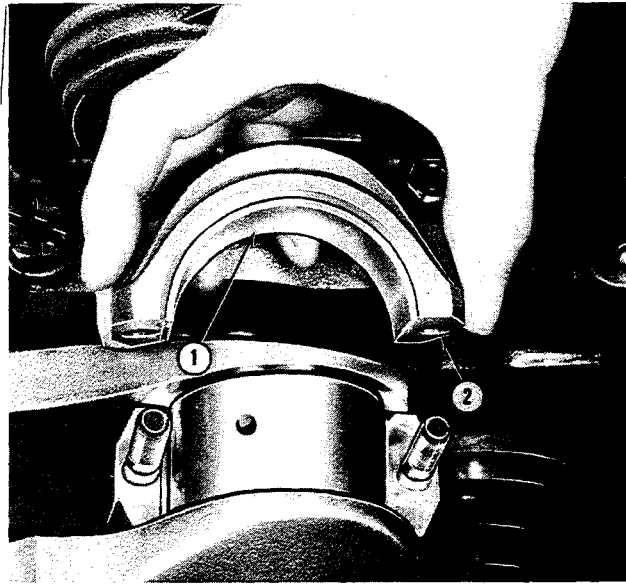

Figure 41
5. Remove the nuts from the connecting rod bearing cap bolts of the piston that is at the bottom of its stroke. Remove the rod bearing cap and liner, Figure 41, from the rod. Push the piston and rod assembly away from the crank pin and remove the bearing liner from the rod. Push the rod and piston assembly out of the top of the cylinder with the handle end of a hammer. Be careful not to scratch the crank pin or the cylinder. Turn the crankshaft to bring each piston to the bottom of its stroke and repeat this procedure. Keep the bearing caps and liners with their respective connecting rods.